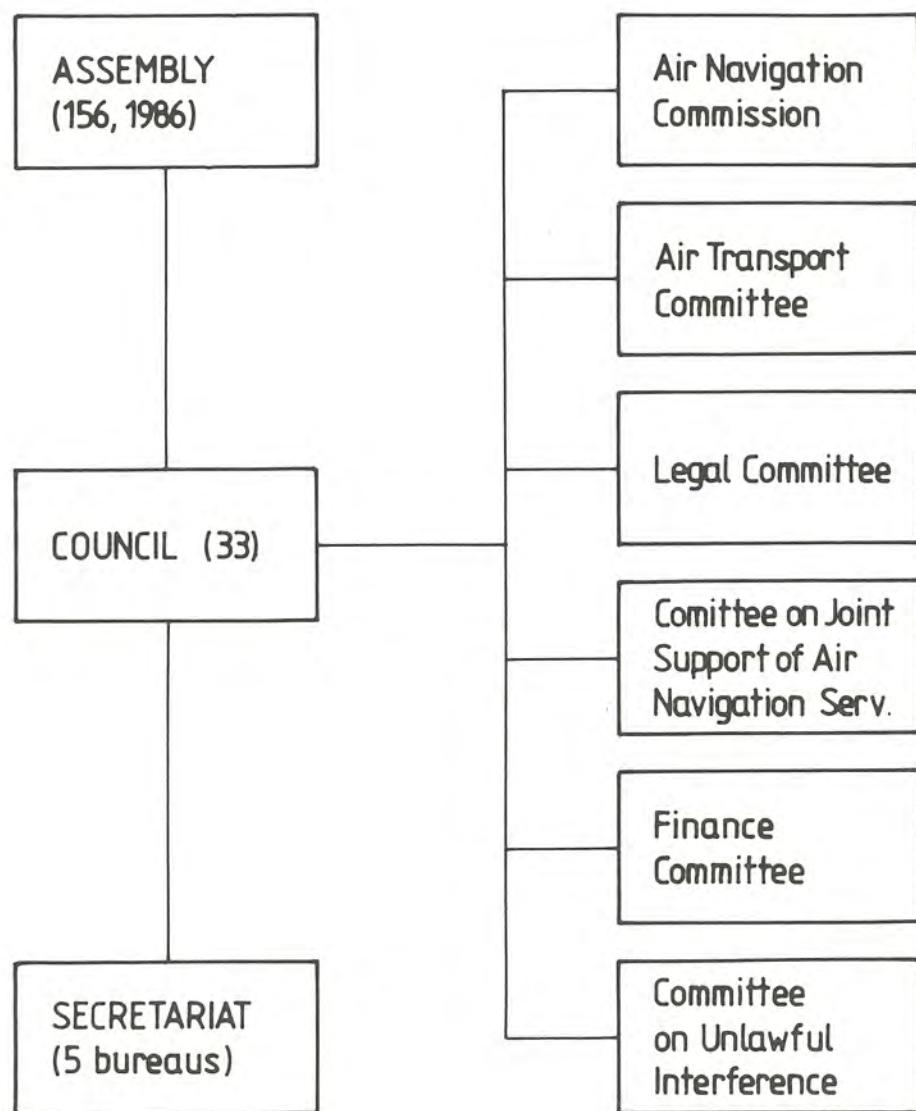

Figure 4
2. The ICAO structure (Figure 4)